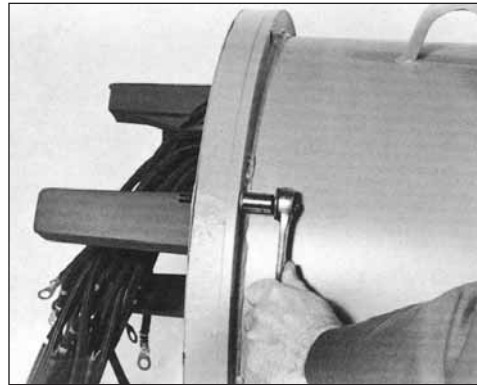

Figure 6-30
- Remove front bracket mounting screws (figure 6-30).